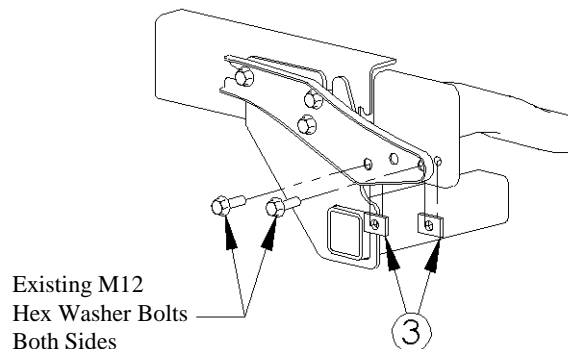

Figure 4
5. Be careful to support the bumper in place during this step. Remove two (2) existing hex washer bolts from one side of bumper bracket and bumper structure as shown in Figure 4.
6. Insert two (2) spacers between bumper bracket and side of bumper structure as shown in Figure 4. Reinsert the hex washer bolts into the bumper bracket, the holes in the spacers, and the holes in the side of the bumper structure. Finger tighten the bolts.